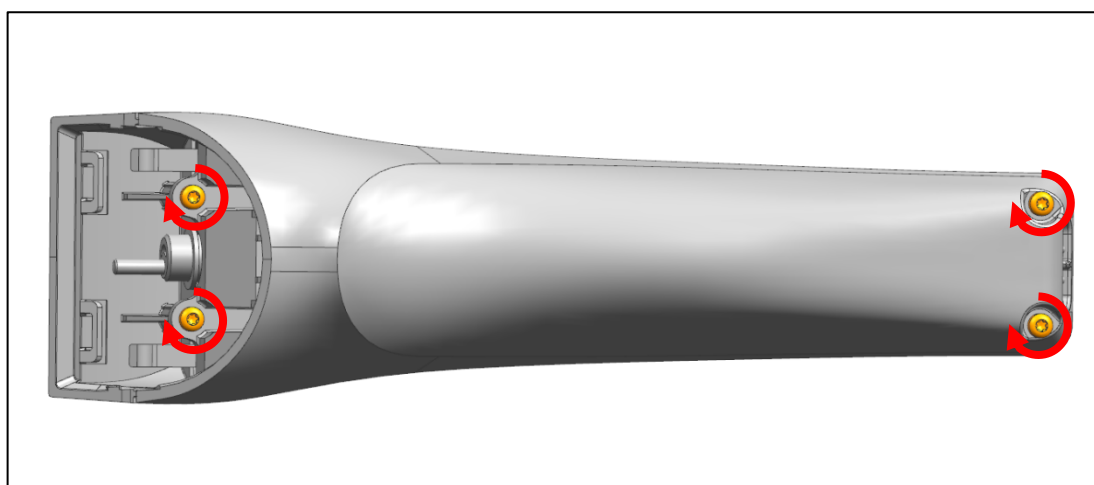

Fig. 37
- b) Use four screws to connect the lower and upper housing (Fig. 37).